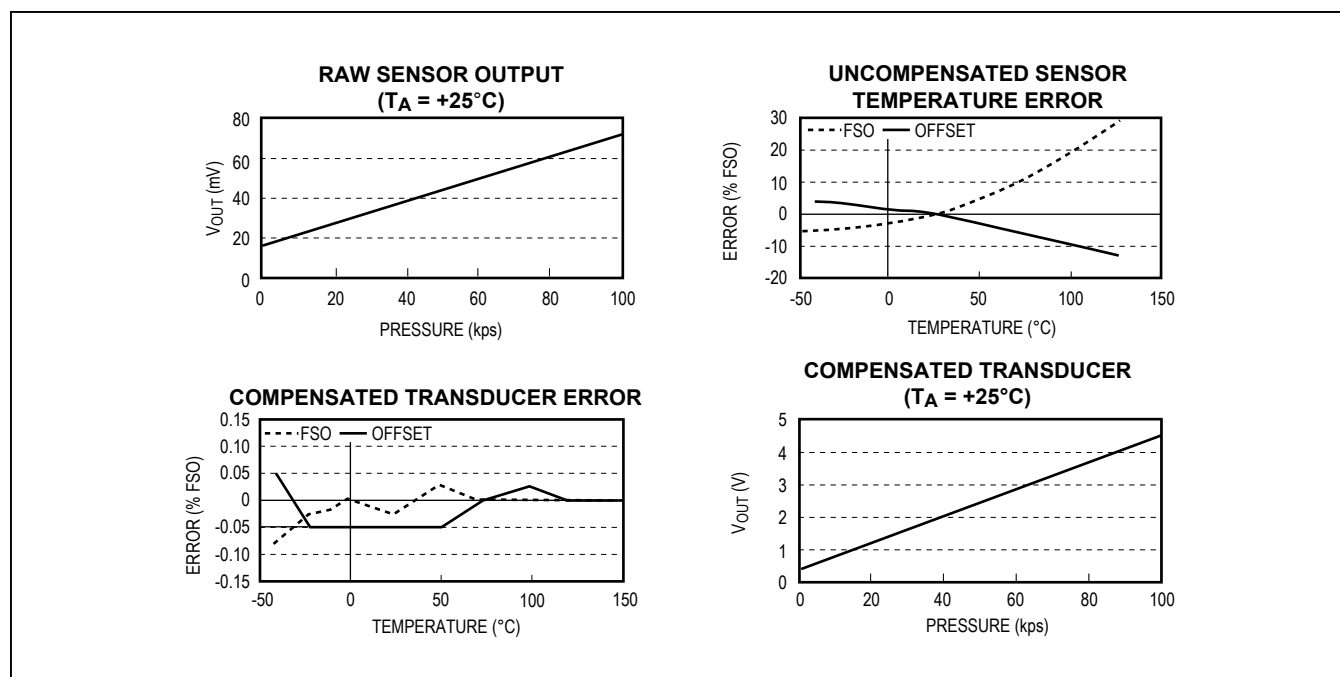

Figure 8. Comparison of an Uncalibrated Sensor and a Calibrated Transducer
The MAX1455 temperature compensation design corrects both sensor and IC temperature errors. This enables the MAX1455 to provide temperature compensation approaching the inherent repeatability of the sensor. An example of the MAX1455’s capabilities is shown in Figure 8. Table 16 lists the effects of compensation.
0.5000V and a span of 4.0000V. Nonlinear sensor offset and FSO temperature errors, which were on the order of 20% to 30% FSO, were reduced to under $\pm 0.1\%$ FSO. Figure 8 shows the output of the uncompensated sensor and the output of the compensated transducer. Six temperature points were used to obtain this result.